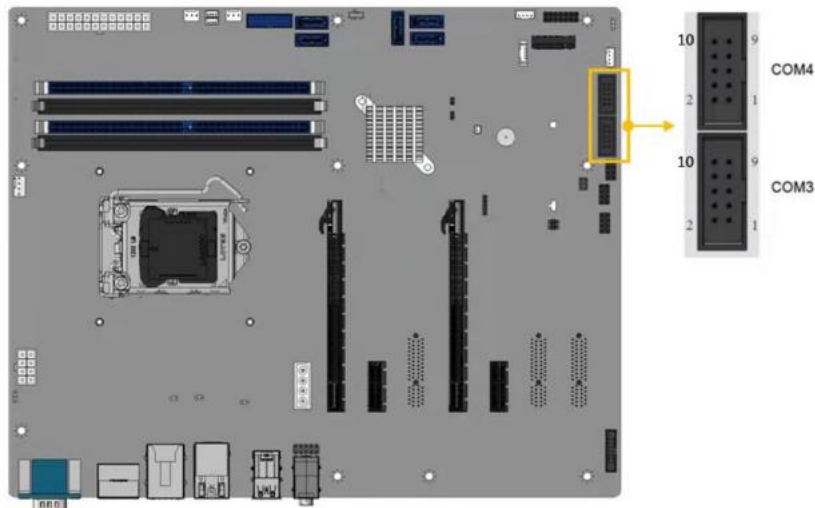

Figure 3-24: RS-232 Serial Port Connector Location
- CN Location:** See Figure 3-24